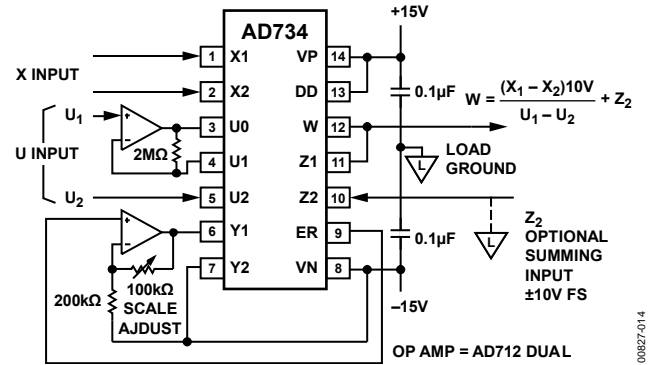

Figure 31. Two-Quadrant Divider with Fixed 10 V Scaling
in Figure 31, where a fixed numerator of 10 V is generated for a divider application. Y₂ is tied to V_N, but Y₁ is 10 V above this; therefore, the common-mode voltage at this interface is still 5 V above V_N, which satisfies the internal biasing requirements (see Table 1).
Where a numerator of 10 V is needed, to implement a two-quadrant divider with fixed scaling, the connections shown in Figure 31 can be used. The reference voltage output appearing between Pin 9 (ER) and Pin 8 (VN) is amplified and buffered by the second op amp, to impose 10 V across the Y1/Y2 input. Note that Y2 is connected to the negative supply in this application. This is permissible because the common-mode voltage is still high enough to meet the internal requirements.